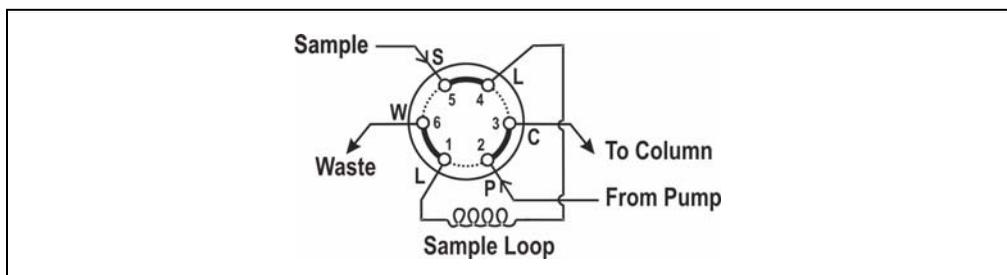

Figure 2-21. Injection Valve Connections
2. Connect the outlet line from the AS40 to port S (5) of the injection valve (see Figure 2-21).